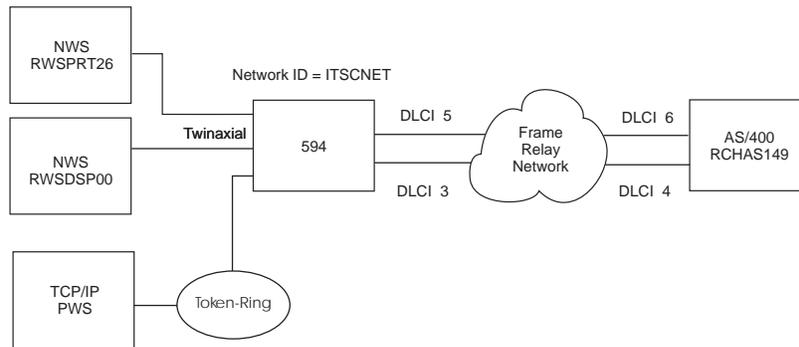

Fig. 17: AS/400 Frame Relay and IP Routing configuration
- Fig. 17: AS/400 Frame Relay and IP Routing configuration 10